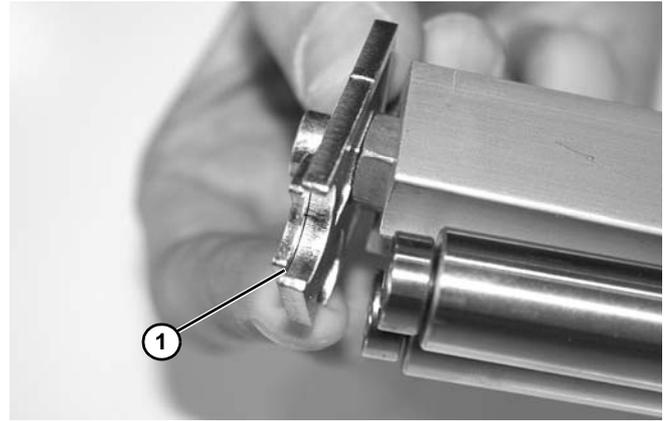

Figure 66
6. Remove outer and inner end plate (Figure 66, item 1).